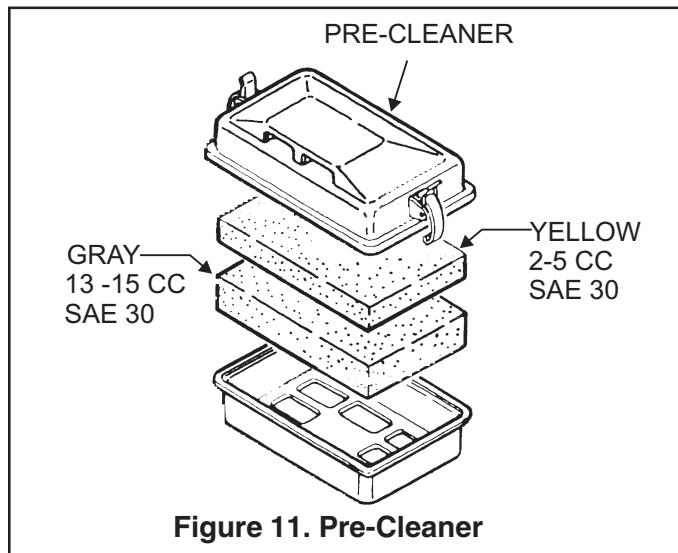

Figure 11. Pre-Cleaner
- Remove the element from the pre-cleaner (Figure 11) at the top of the crankcase (body side) and clean it with cleaning oil (kerosene).